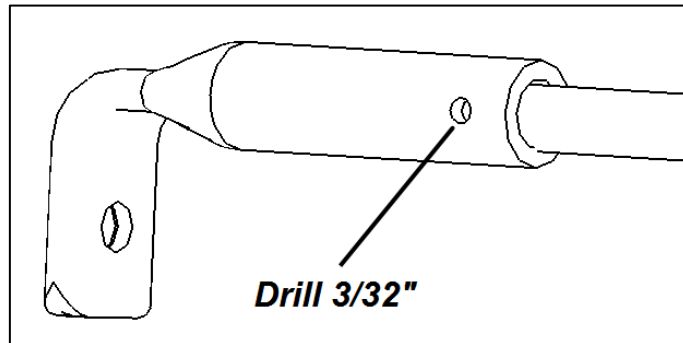

Figure 6: Location B and C
- 6) Remove existing support and replace with #403570 metal support supplied for this bulletin (Fig.6).
- 7) Drill the existing hole 9/64" (Fig 6)
- 11) Once the support is secured, drill 3/32" trough guide rod using the existing hole in the support as drilling guide (Fig. 6).